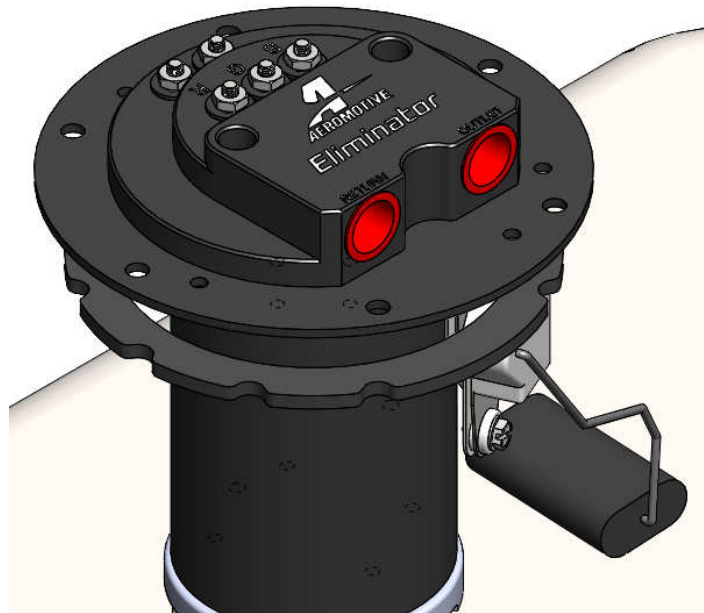

FIGURE 1-2
10. Before placing the new Aeromotive Stealth assembly in the tank, install the new pump-to-tank gasket. The gasket only installs one orientation, rotate the gasket until all of the bolt holes line up. **FIGURE 1-2**